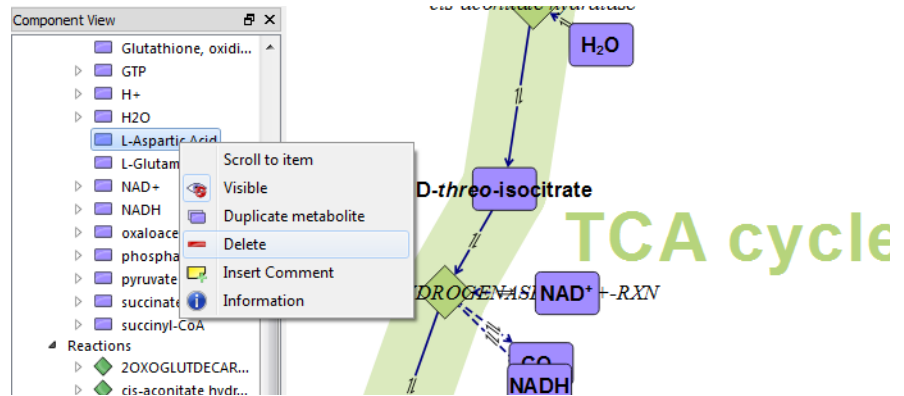

Figure 79 Delete a metabolite from the Component View
- Right-click the **L-aspartic acid** metabolite in the *Component View*, and then click **Delete** to delete the L-aspartic acid metabolite that was imported with the PFA file (Figure 79 on page 83).